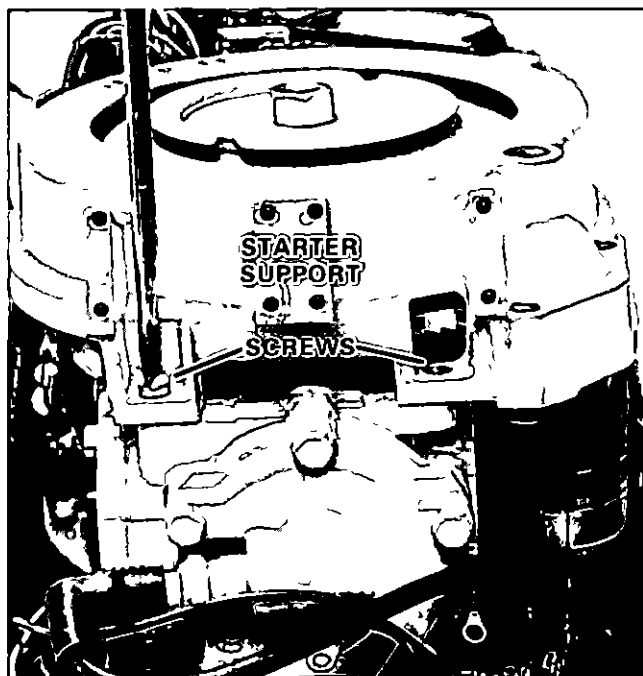

Figure 21. Removing Starter Support.
- 2 Remove four (4) screws securing coil to starter support.
- 3 Remove (2) screws securing starter to starter support plate. Lay starter in support plate.
- 4 Remove four (4) screws securing starter support to starter support bracket on power head. Figure 21.